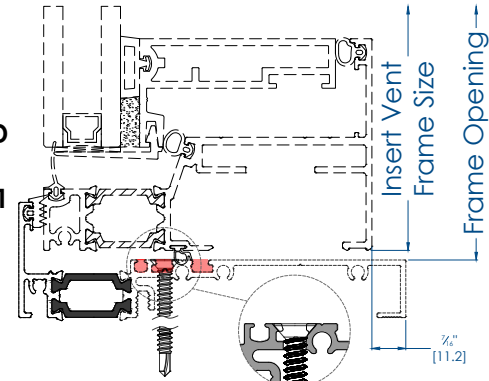

FIG. 1 Flat Head Fastener
- IF ANCHORING THROUGH THE FRAME FLAT HEAD FASTENERS MUST BE USED TO ALLOW THE VENT INSERTION.** **See FIG 1**
- Seal Anchor Fasteners Heads, **See FIG 1, item 2**